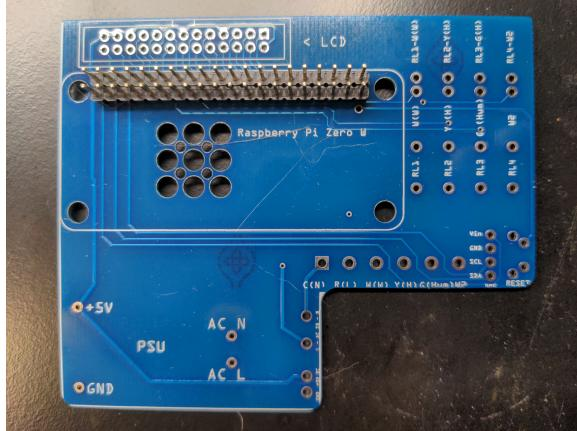

Figure 1: Headers for the pi, don't forget the reset pin like I did here!
1. Solder standard headers onto PCB for the pi (figure 1) Make sure you don't miss the reset pin at the right, just below the block of 2x20 pins